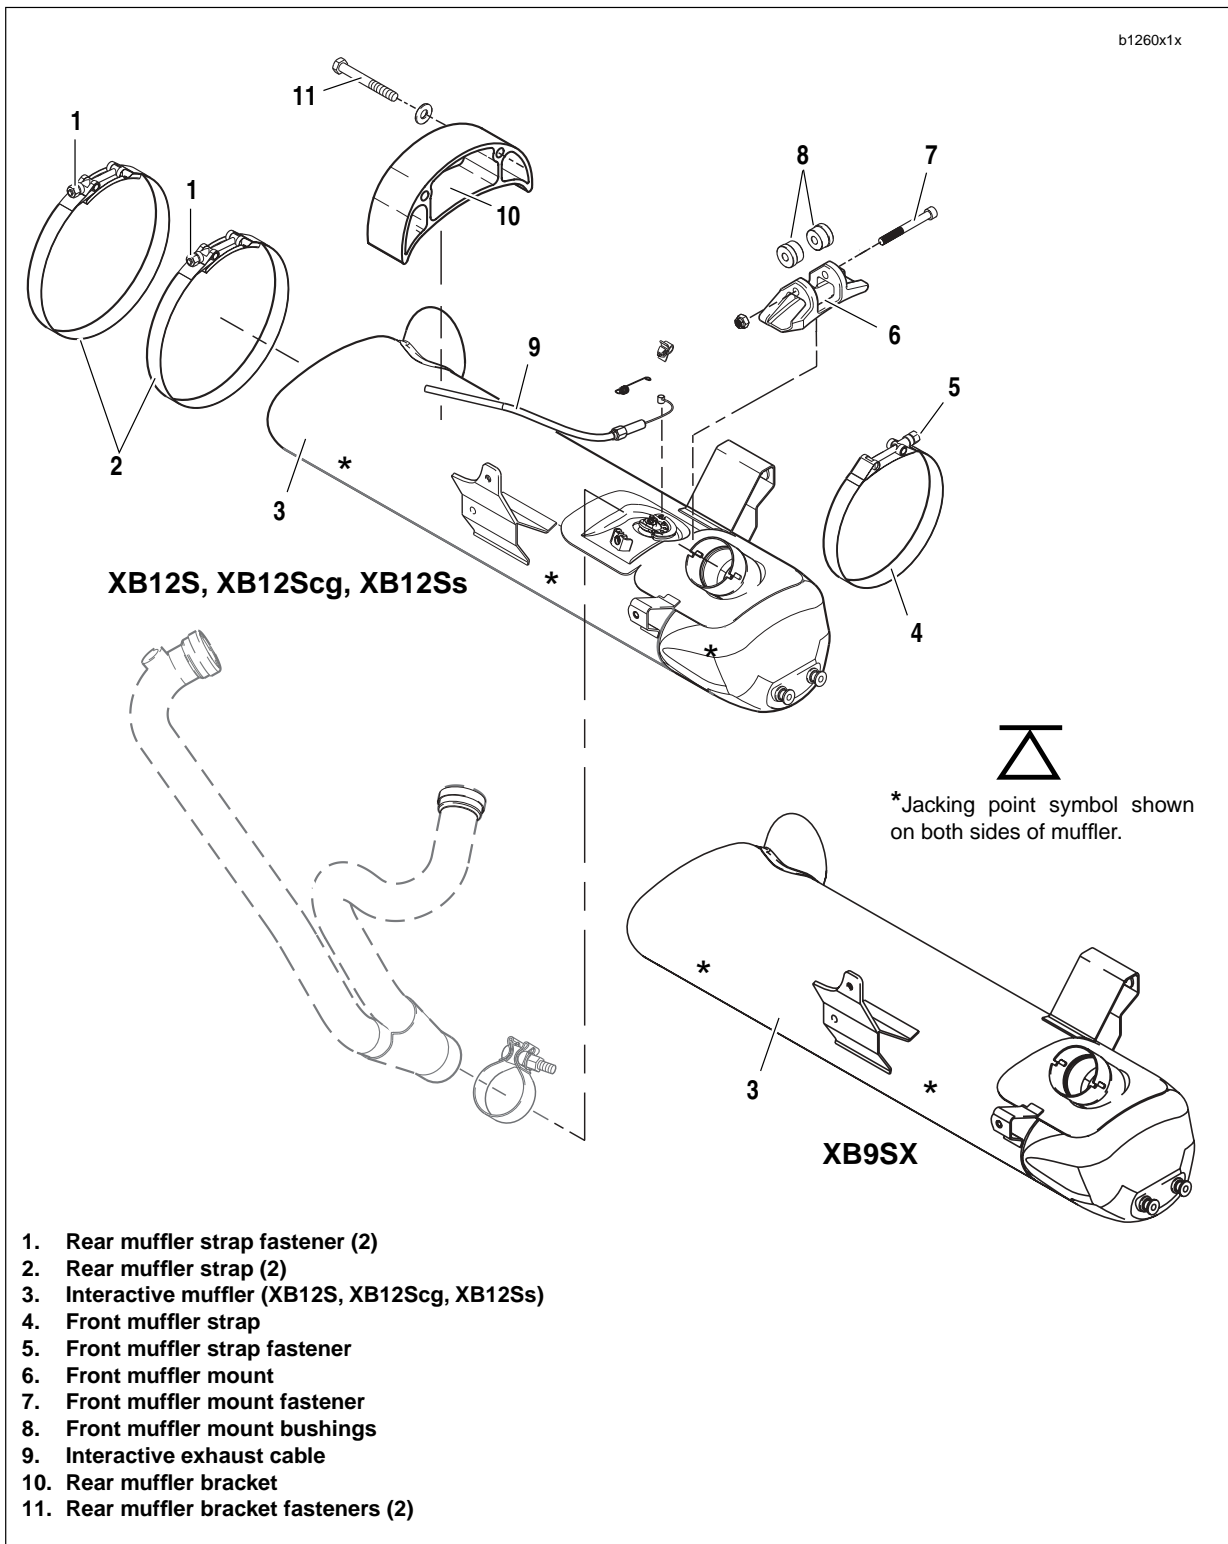

Figure 2-114. Muffer Assembly
4. See Figure 2-114. Loosen front muffler mount fastener (7) but do not remove.
- a. **Front:** Remove front muffler strap fastener (5).
- b. **Rear:** Alternately loosen rear strap fasteners (1) and remove straps (2).
2. See Figure 2-114. Remove front muffler mount fastener (7).
3. Remove strap (4) from front muffler mount (6).
4. Remove front muffler mount bushings (8) by punching out with suitable tool.
4. See Figure 2-114. Remove rear muffler bracket fasteners (11).
5. Slide oil line from rear muffler bracket and remove rear muffler bracket (10).
1. See Figure 2-114. Slide rear muffler bracket (10) over oil line.
2. Apply LOCTITE 271 (red) to rear muffler bracket fasteners (11), install and tighten to 32-36 ft-lbs (43-49 Nm).
1. See Figure 2-114. Install front muffler mount bushings (8).
2. Install **new** strap on front muffler mount (6).
3. Install front fastener (7) loosely. **Do not tighten.**
3. See Figure 2-114. Loosely install **new** front and rear muffler straps (2, 4).